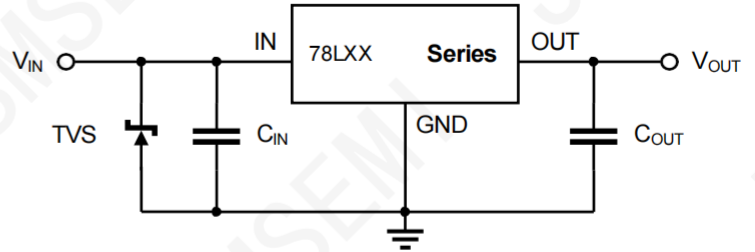

Figure 8-2. TVS is used at IN
1. Place a TVS between the IN and GND of the voltage regulator to absorb the peak voltage that may be generated due to ESD or other reasons. As shown in Figure 8-2;
For the 78LXX series, it is recommended that the peak voltage should not exceed 36V. When the input voltage of the operating circuit may not meet the application conditions described above, it is recommended to adopt the circuit layout shown in Figure 8-2 to 8-4 in the circuit design. During the power supply design process, the designer must inspect the application circuit to ensure that under no circumstances will the IC be damaged due to the reasons mentioned above.
It is recommended that the C_{OUT} should not exceed $20\mu\text{F}$. When the C_{OUT} exceeds $20\mu\text{F}$, it is recommended to use the circuit layout shown in Figure 8-2. See *Large Output Capacitance* for more details.